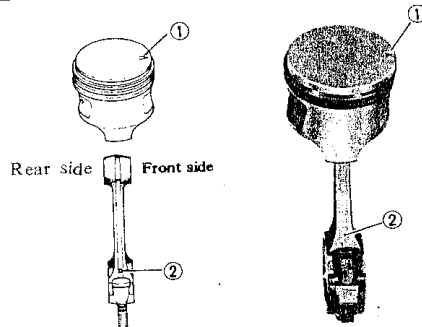

Fig. 3-109
POSITION OF PISTON RELATIVE TO CONNECTING ROD; The arrow ① on the crown points to front (pulley) side, and the oil hole ② comes on inlet port side. See Fig. 3-109.